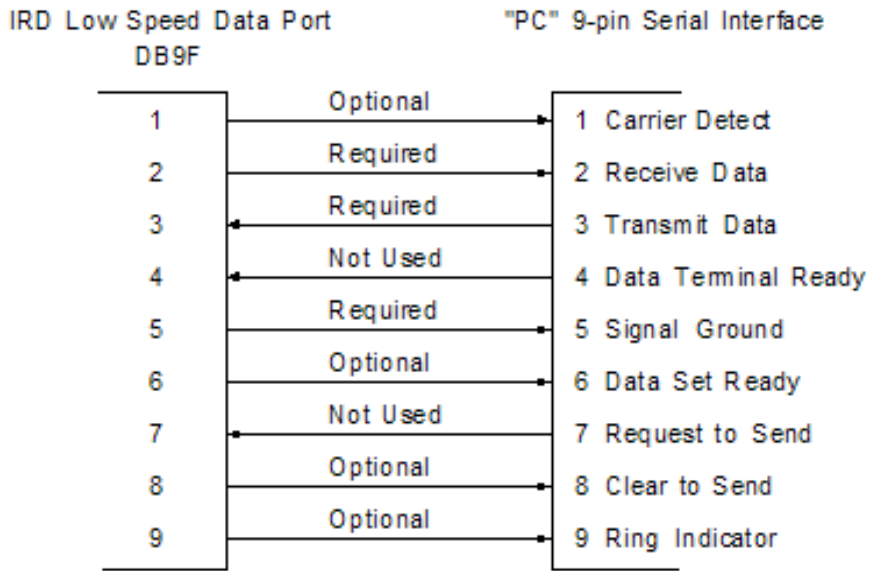
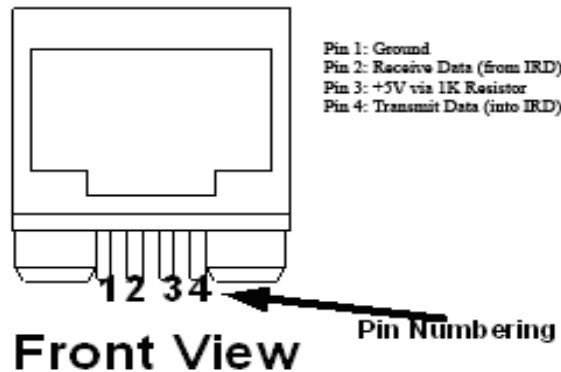

Figure 1. Low-Speed Data Port Pin Assignment Diagram
Figure 2. Orientation of the RJ22 (4 way/4 position) Jack
The STB connector type will be a standard DB-9F or RJ22 (4 way/4 position jack). The pins for the DB-9F are as shown in Figure 1. The STB will use three (3) lines (L2-Rx, L3-Tx and L5-Grnd) for bi-directional full-duplex communications. Figure 2 shows the orientation of the RJ22 (4 way/4 position jack).